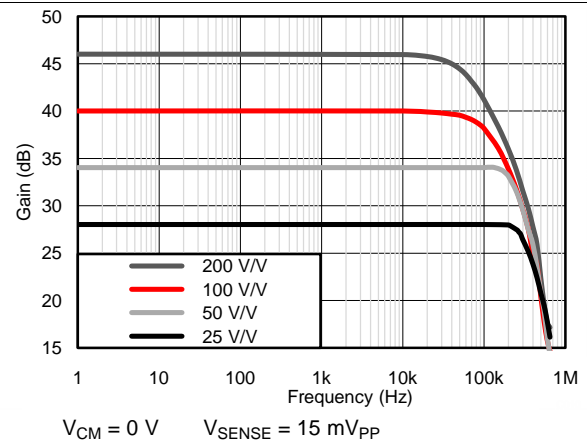

Figure 10. Gain vs Frequency
(1) RTI = referred-to-input.
(2) See Typical Characteristic curve, *Output Voltage Swing vs Output Current* (Figure 10).